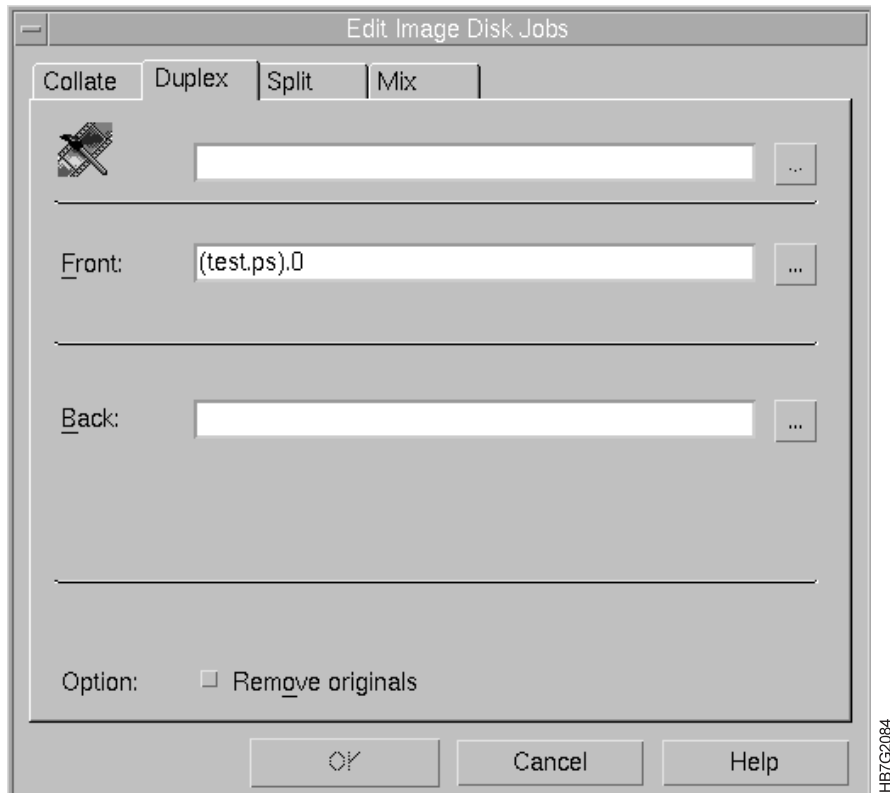

Figure 125. Edit Image Disk Jobs Window
- 1 Click the **Duplex** tab in the **Edit Image Disk Jobs** window, as shown in Figure 125 on page 194.